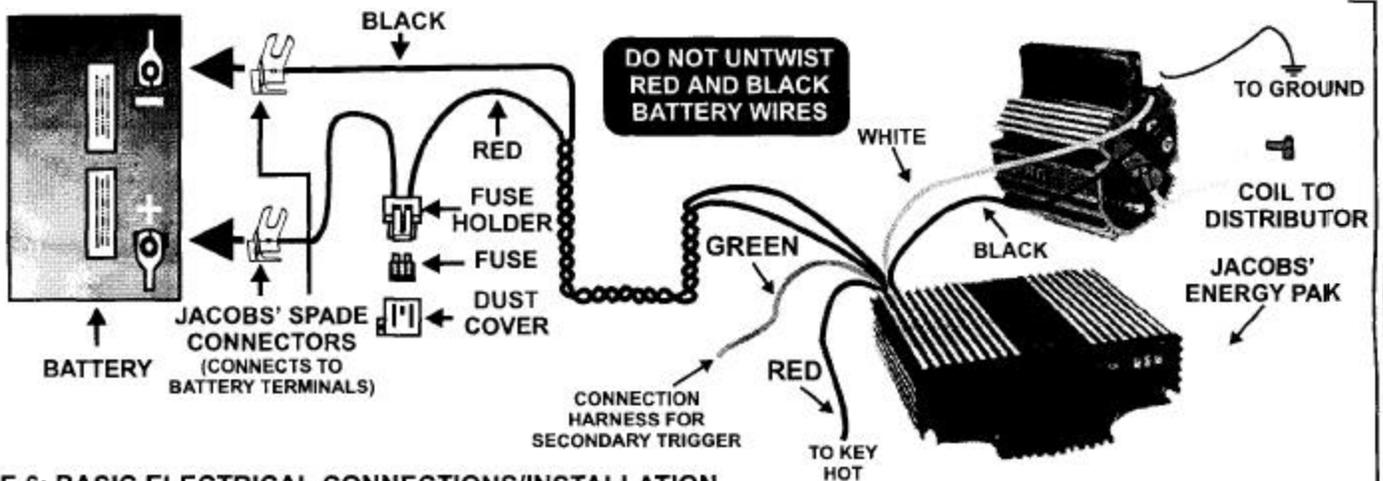

FIGURE 6: BASIC ELECTRICAL CONNECTIONS/INSTALLATION
A. CONNECTIONS OF THE ICE PAWS POWER, GROUND, AND COIL WIRES (REFER TO FIG. 6, ABOVE)